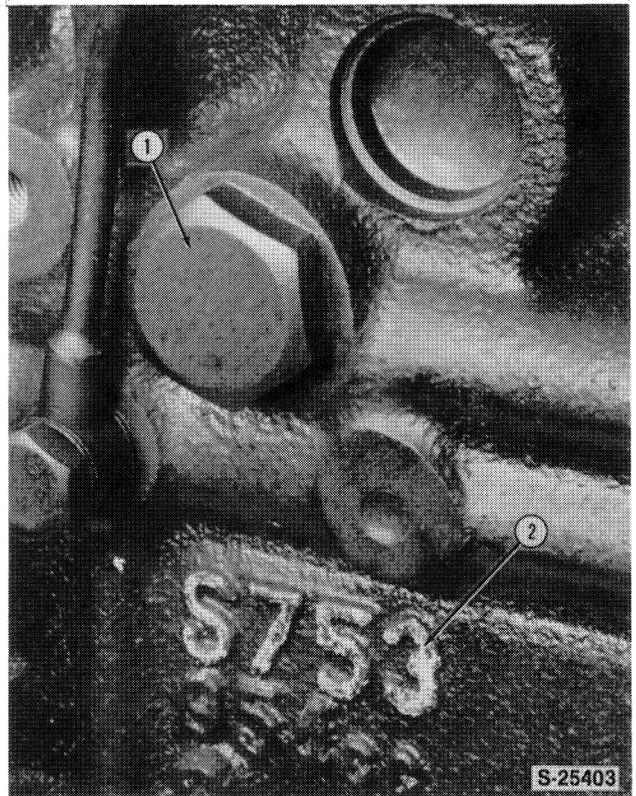

Figure 41
The oil pump relief valve (1) is located on the right side of the engine, Figure 41.